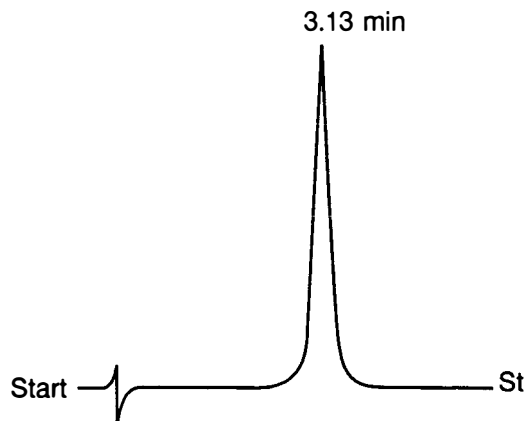

Fig. 4.2. Glucose test sample analysis on Cation H⁺ cartridge.
2. Chromatogram will start to show a peak after time shown on test chromatogram packed with column. After completion of the chromatogram, check for smoothness of baseline and symmetry of peak. See Figure 4.2 for Cation H⁺ cartridges using glucose as test sample.